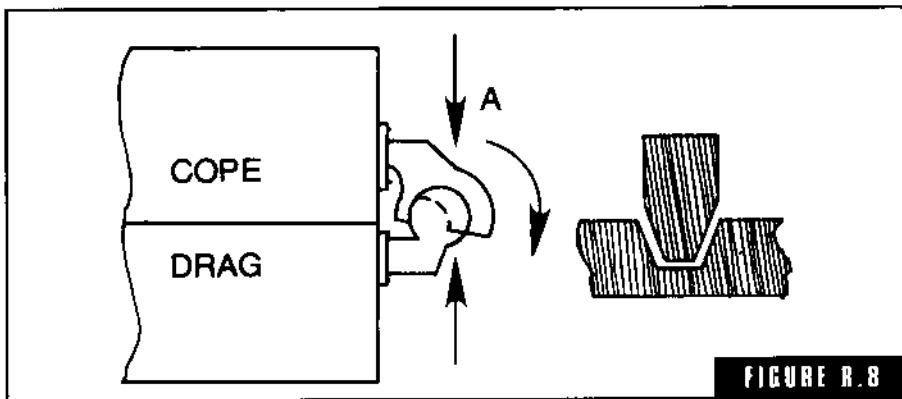

FIGURE R.8
**roll-off hinges** These hinges allow the flask to be opened like a book (Fig. R-8). The pattern is removed and the mold closed—all without lifting the cope.